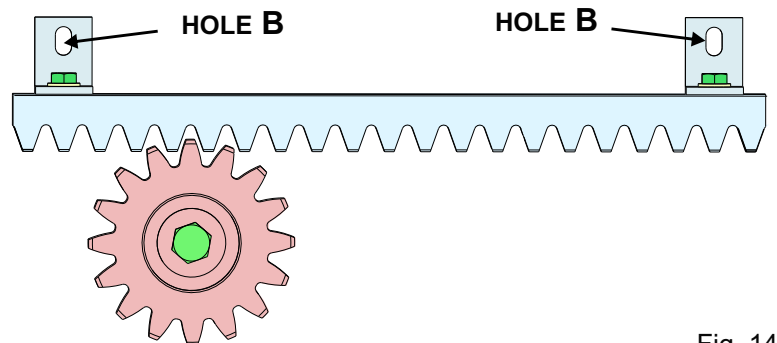

Fig. 14
- 7.3. Lean the rack element on the pinion - Fig. 14 - in parallel to the gate slideway on the ground
**KEEP A GAP OF ABOUT 1 mm BETWEEN THE PINION TOOTH AND THE GEAR RACK TOOTH TO AVOID THAT THE GATE WEIGHTS DOWN THE PINION - FIG. 14**